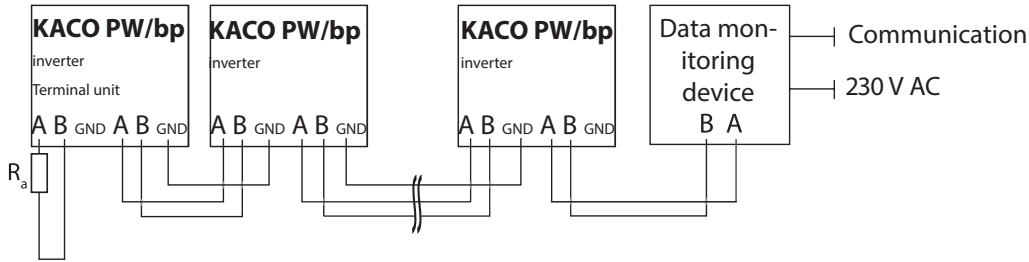

Figure 23: RS485 interface wiring diagram
- 1. Connect the connection cable to the corresponding connection terminals (Figure 23).
- GND with GND (see Figure 23 on page 26)